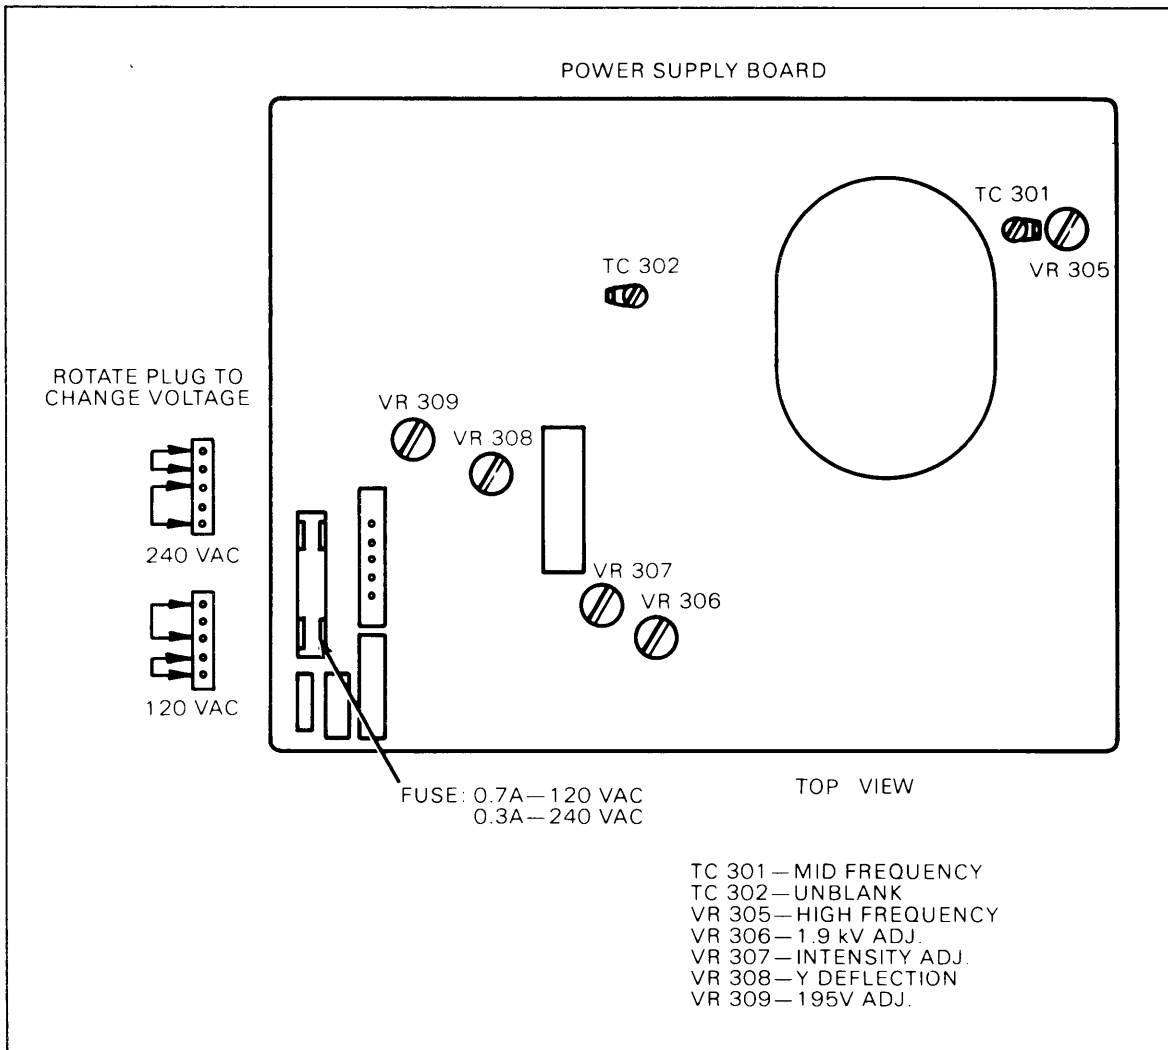

Fig. 58. Calibration diagram, power supply board.
2. Remove voltage selector plug (see Fig. 58).